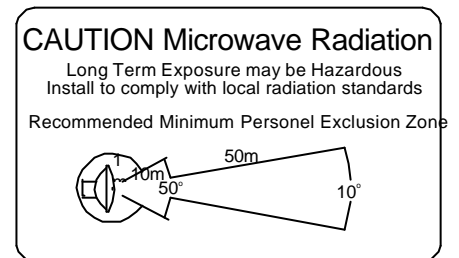

Figure 1 – Radiation Hazard Label
4. For permanent exposure, the minimum recommended distance to an operating TC-ULINK Series radio is 50m in the main lobe ( $\pm 5^\circ$ ), 10m behind ( $\pm 5^\circ$ ), and 1m at the rear of the ODU ( $\pm 110^\circ$ ), as per Figure 1.